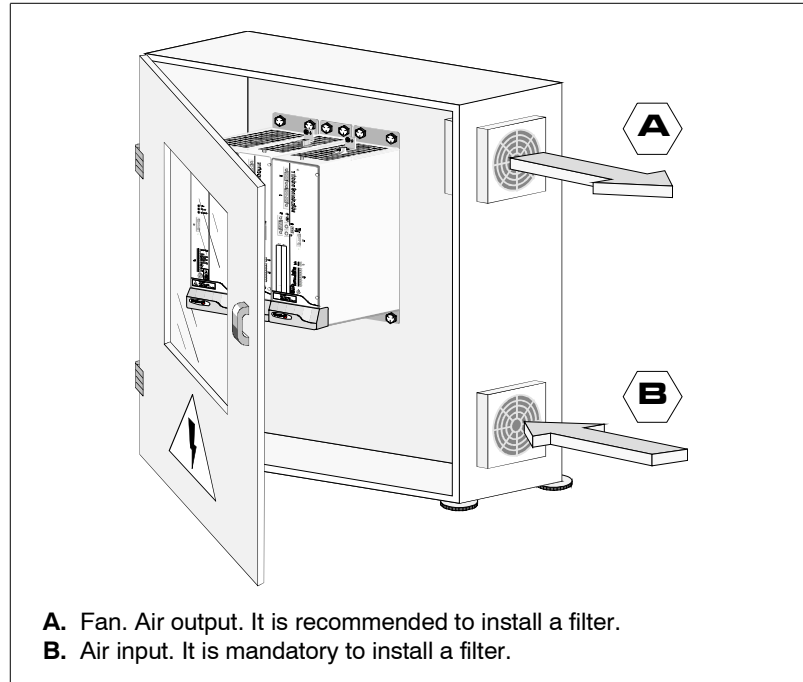

FIGURE H8.2
- Place the extractor fan at the top of the cabinet and the air intake at the bottom. See FIGURE H8.2.